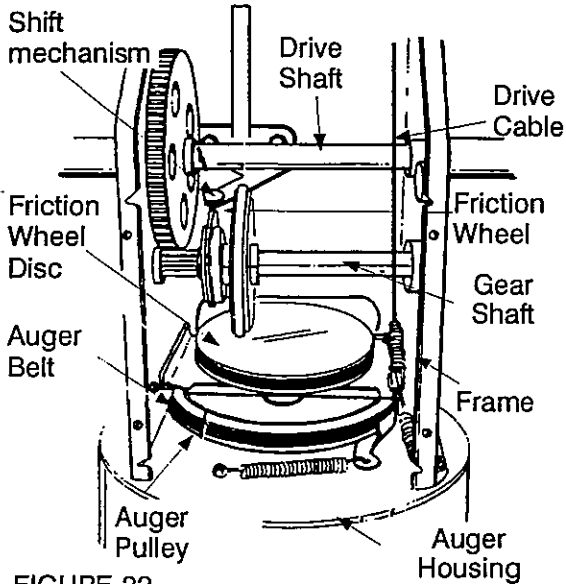
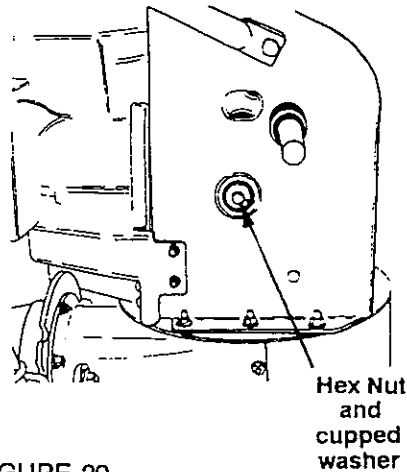

FIGURE 22
FIGURE 29
If for any reason your transmission was disassembled and the drive cable disconnected, make sure when reassembling to pass the cable between the drive shaft and the gear shaft before reconnecting to support bracket. See figure 22.
- Slip belt between friction wheel and friction wheel disc. See figure 22. You may have to twist the belt flat in order to slide it through the clearance between the friction wheel and the friction wheel disc. Remove the belt completely.
- Remove the gear shaft from the unit by removing the hex nut and cupped washer from left side of the frame. See figure 29. Hold the friction wheel assembly, and slide the gear shaft out of the unit toward the right hand side. Refer to figure 22.
- Reassemble new friction wheel rubber to the friction wheel assembly, tighten approximately 2 turns on each screw until tight.. It is important for the rubber to be assembled symmetrically. See figure 29.